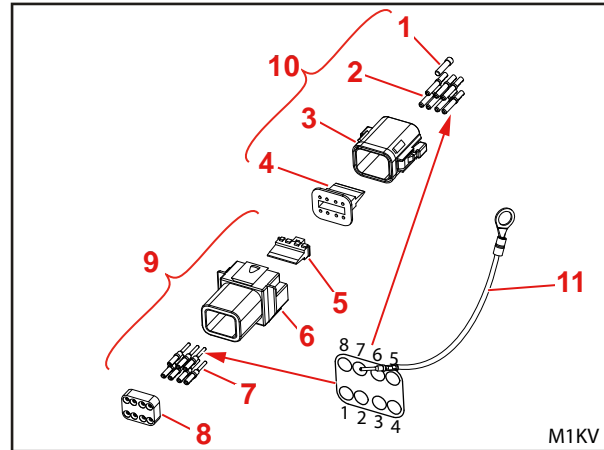

Fig. 6 Installing the socket housing and plug housing
- (1) Push the PG gland and cap onto the cable.
- (2) Attach the socket contacts onto the individual wires (see Fig. 6).
- (3) Insert the socket contacts in the housing at positions 1 to 7 (see Fig. 6).
- (4) Insert the blind plugs on the wedge (see Fig. 6).
- (5) Insert the wedge and press firmly (see Fig. 6).